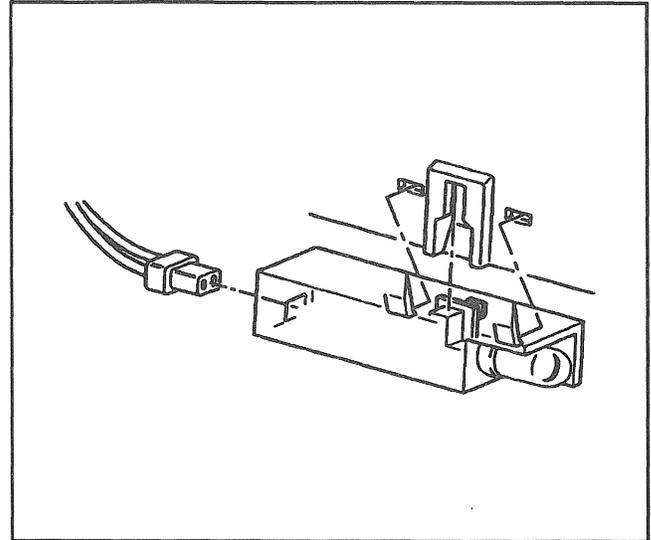

Figure 38—Instrument Panel Compartment Lamp
**↔** Remove or Disconnect (Figure 38)
**↔** Install or Connect (Figure 38)